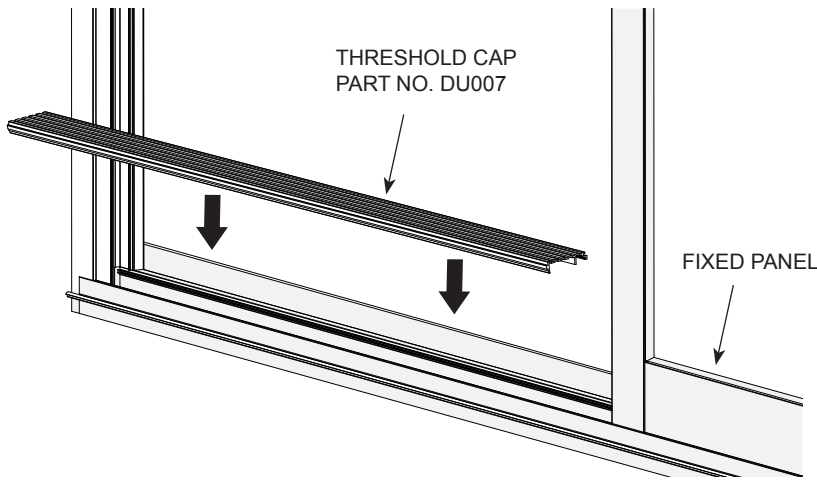

FIG. 23
1. Install the threshold cap into the sill between the fixed panel and the lock jamb. (FIG. 23)